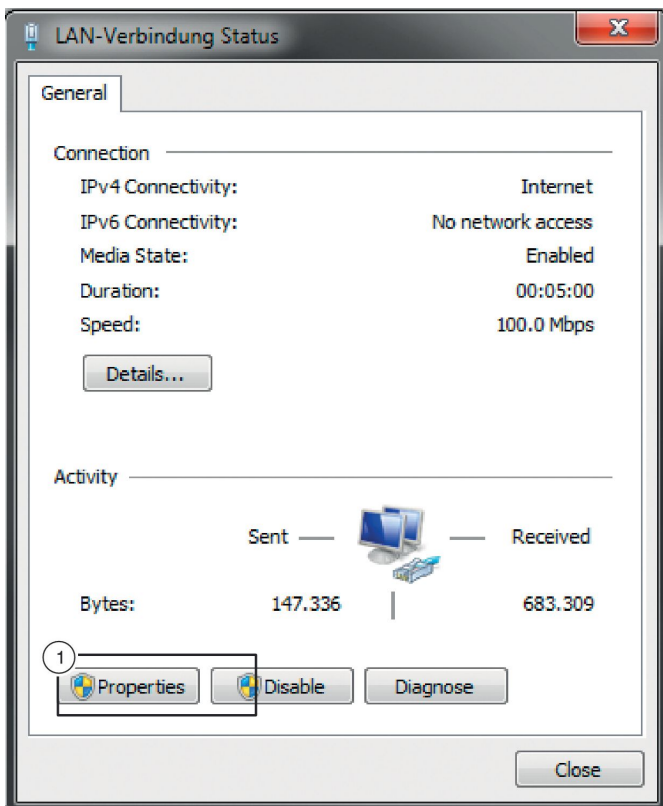

Fig. 52: LAN connection status
5. ▶ Select 'Properties' (Fig. 52 /1).